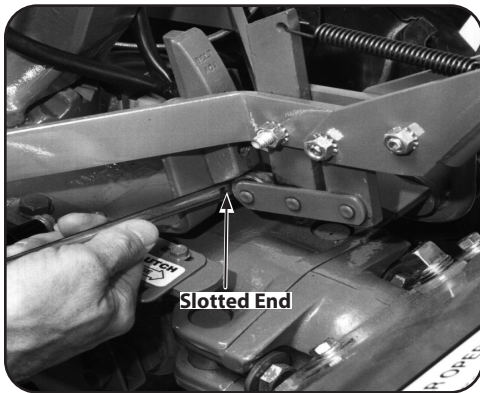

Figure 5-14
- a. Without moving the clutch roller, try inserting the $1/4''$ -thick, slotted end of the belt adjustment tool in between the roller and the upright bracket. The flat edge of the tool must be facing the roller. See Figure 5-14.